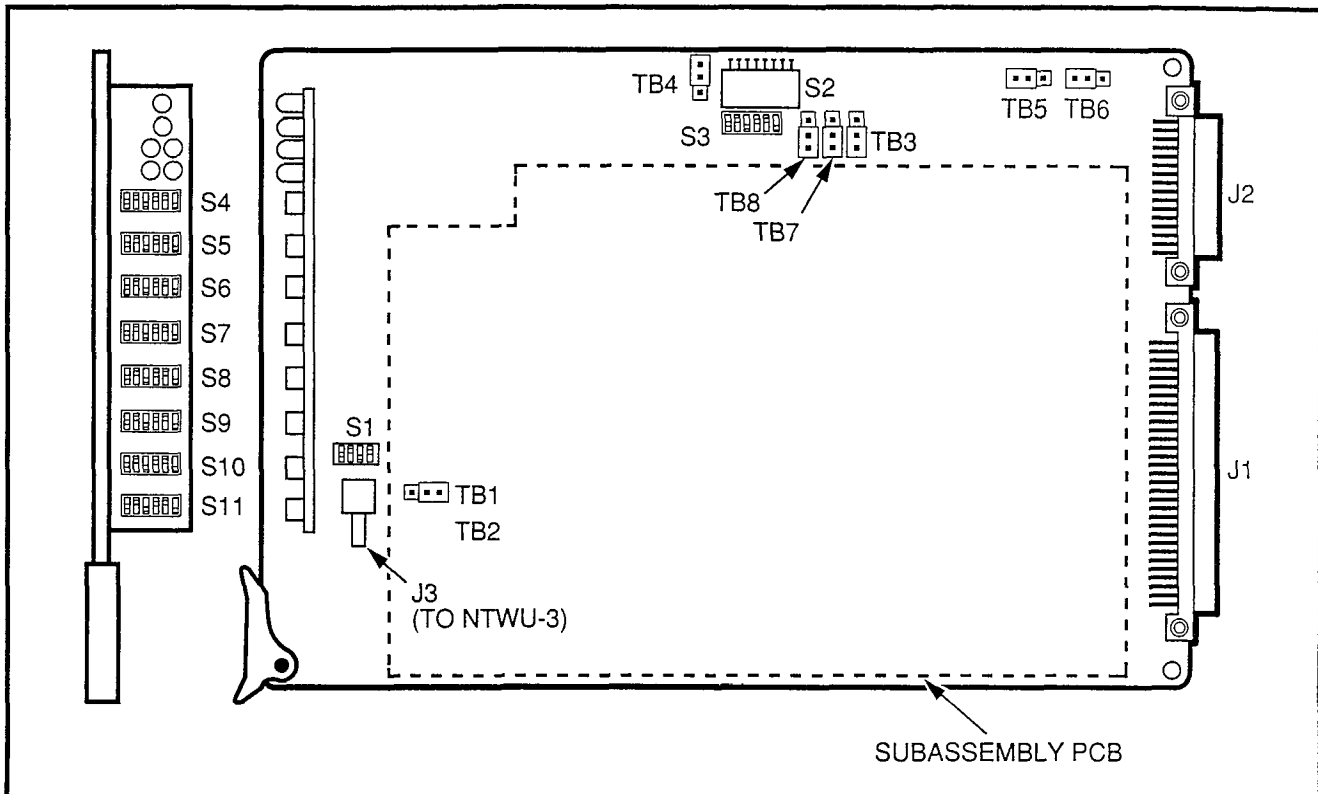

FIGURE 4—NDTU PRINTED CIRCUIT BOARD LAYOUT
- 1) **Printed Circuit Board Layout:** The NDTU consists of two PCBs (host and subassembly). Figure 4 shows the layout of the switches, strapping options, and connectors on the host PCB, and the LEDs on the front panel attached to the host PCB.